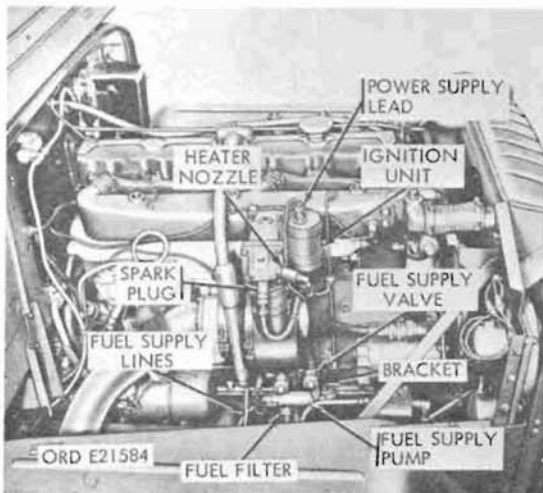

Figure 122. Engine manifold heater replacement.
(1) Disconnect ignition lead from spark plug and remove spark plug and gasket. Discard gasket (fig. 122).
(2) Disconnect fuel supply and fuel return lines from heater nozzle and remove heater nozzle.
(3) Disconnect power supply lead and ignition lead from ignition unit.
(4) Remove nuts and lockwashers securing ignition unit to ignition unit bracket and remove ignition unit.